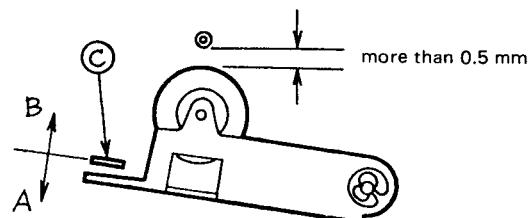
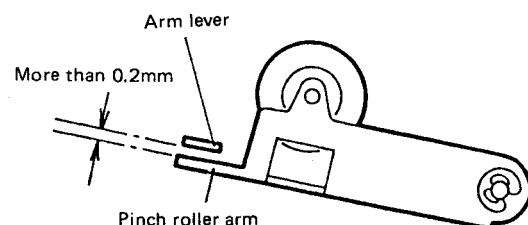

Fig. 26
Fig. 27
- a. Adjust the pinch arm lever to keep the clearance between the pinch roller and the capstan more than 0.5mm while depressing the PAUSE button. Bend the portion (C) of the pinch arm lever to the direction A in shorter clearance and the direction B in longer (Fig. 26).
- b. Adjust the pinch arm lever by bending the portion (C) to the direction A, if the rotation of reel disc is stopped or the cassette tape is pulled out from the cassette by the pinch roller rotation while depressing the PAUSE button in the playing mode (Fig. 26).
- a. Bend the portion (C) of the pinch arm lever to direction A if cassette tape is drawn out from the cassette on starting of the review operation. (Fig. 27)
- b. Bend the portion (C) of the pinch arm lever to the direction B, if the mechanism is made in fast forward mode on starting of the review operation. (Fig. 26)
- a. Bend the portion (C) of the pinch arm lever to the direction A, if the cassette tape is drawn out from the cassette on starting of the review operation.
- b. Bend the portion (C) of the pinch arm lever to the direction-B, if the mechanism is made in fast forward mode on starting of the cue operation.
* Check that the clearance between the pinch roller arm and the pinch arm lever is more than 0.2mm, when depressing the REVIEW button in the recording mode (Fig. 27).